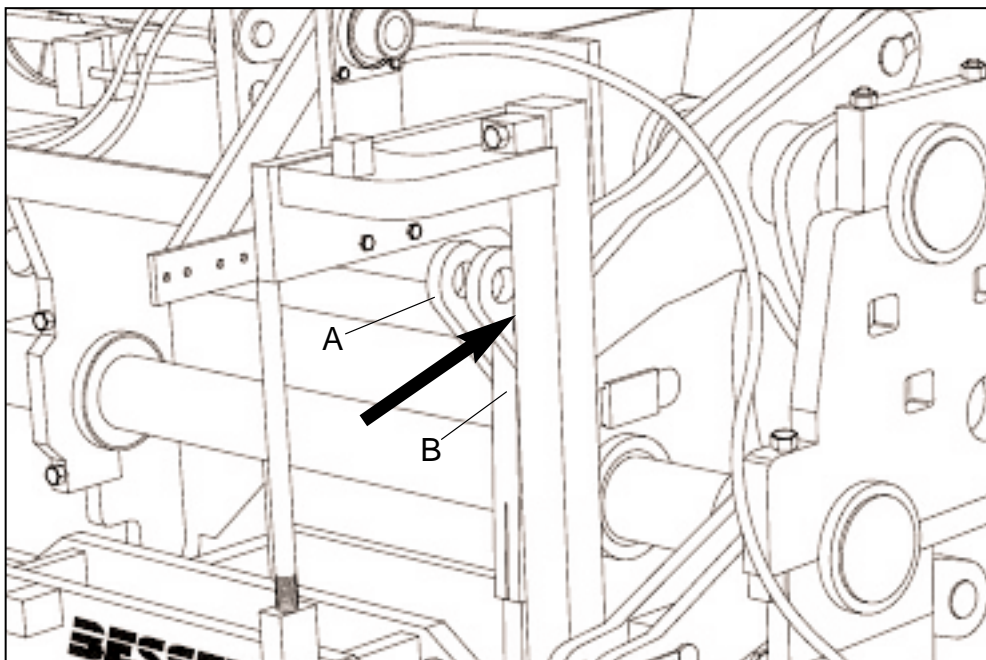

Figure 4.61 STRIPPER HEAD SHAFT AND LINKS.
- b. Stripper head shaft (A) - position pins in inside holes (short stroke) (see figure 4.61).
- c. Stripper head links (B) - position pins in top holes. Adjust links to obtain approximately **105mm (4 1/8") between link ends** (see figure 4.61).